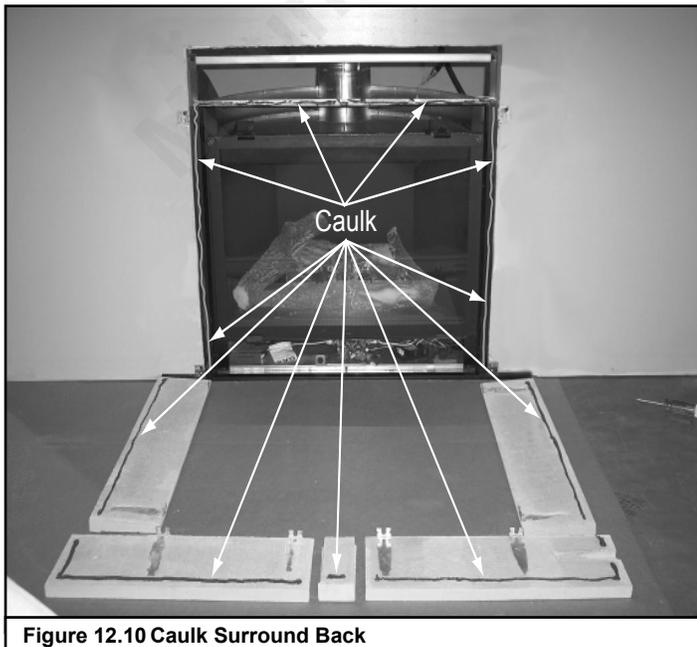

Figure 12.10 Caulk Surround Back
- Apply a 1/4 in. diameter bead of high temperature, silicone caulking approximately 1 in. from the outside edge of the surround piece, on top and side flanges of appliance. See Figure 12.10
- Apply 1/4 in bead of high temperature silicone caulking approximately 1 in. from the outside edge of both top surround pieces. Refer to Figure 12.10. Do not get caulking in switch channel of right top surround.